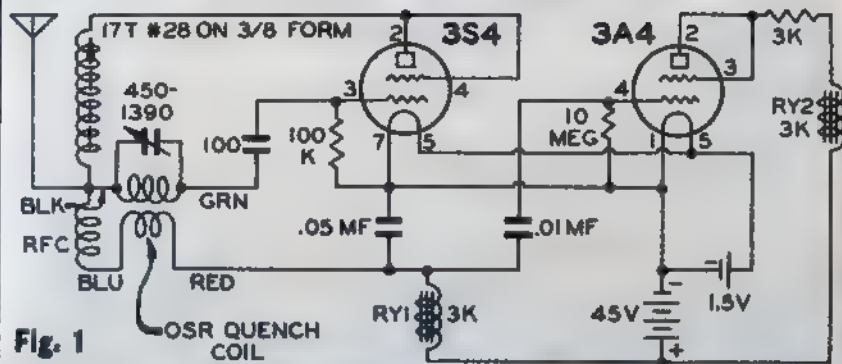

Fig. 1
**Simple-Double.** A Simple-Single has been adapted for multi-controls by Sherman E. Meek (Box 926, Cactus, Texas) by the addition of a second tube as seen in Fig. 1. Mr. Meek has used this receiver with a proportional system to work with the rudder, pulse rate being about 3 cps. Ry1 works as usual to control the rudder, but as long as pulsing continues, Ry2 does not close, since the 3A4 remains cut off. With either a continuous signal, or no signal, Ry2 operates, and is connected for "fail-safe" purposes and to operate an engine control.